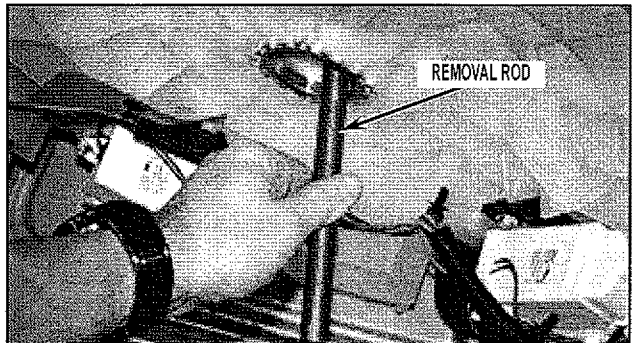

FIGURE 10
14. Tip washer back on hoses and drive Top Bearing out using Removal Rod and hammer. Discard all parts. See Figure 10.